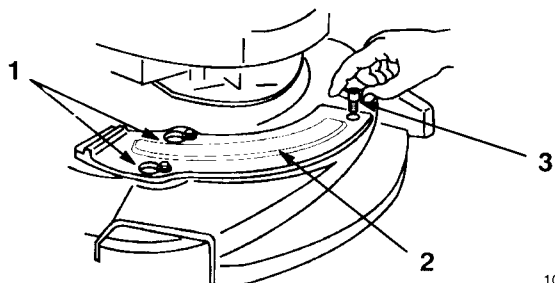

Figure 50
7. Slide the mulch plate over the shoulder bolts (Fig. 50).
9. Secure the mulch plate with the wing screw (Fig. 50).